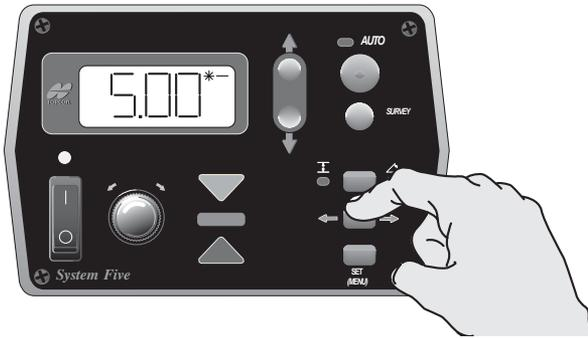

Figure 4-13. Cross Communication Established – Second Control Box Settings
- The right arrow illuminates once cross communication with the second Control Box has been established. The display now shows the settings of the second box (Figure 4-13 on page 4-10). The cross communication arrows on the second Control Box flash during cross communication.